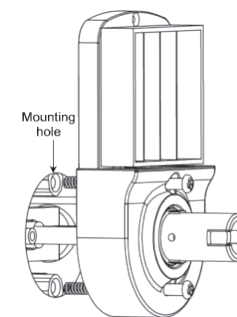

fig. 4
3.1 Latch is adjustable, you may set the latch to either 2 3/8" (60 mm) or 2 3/4" (70 mm) backset (see fig.4).
1.4 Insert Mounting Screws to mounting hole on the inside chassis (see fig. 4), screws should slide smoothly through hole on door.